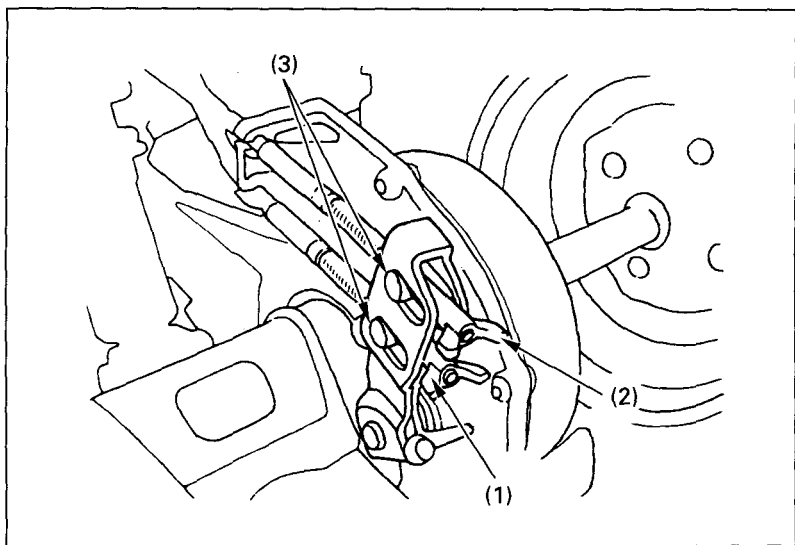

Fig. 4-27
(1) Rear brake pedal
To adjust the free play, turn the brake pedal adjusting nut (1), (Fig. 4-27), located on the brake operating rod at the rear of the frame. Make sure the cut-out on the adjusting nut is properly seated on the brake arm pin (3).
To adjust the free play, turn the brake lever adjusting nut (2), (Fig. 4-27), located on the brake operating rod at the rear of the frame. Make sure the cut-out on the adjusting nut is properly seated on the brake arm pin (3).